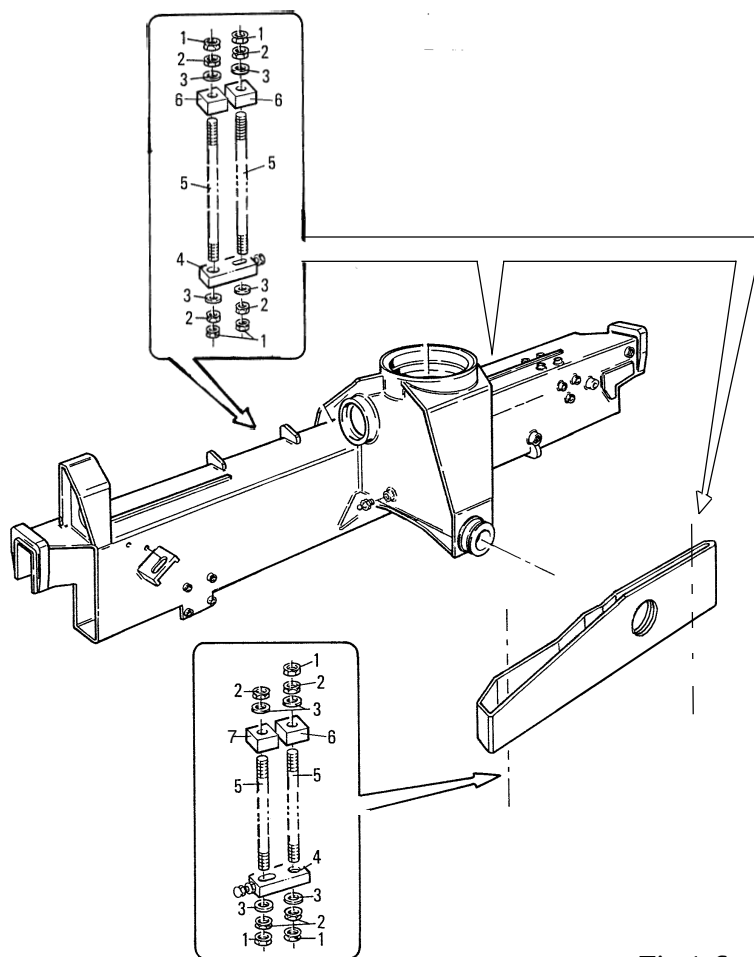

Fig.1-6
1.7 ANCORAGGIO (Fig. 1-6)
1.7 VERANKERUNG (Abb. 1-6)